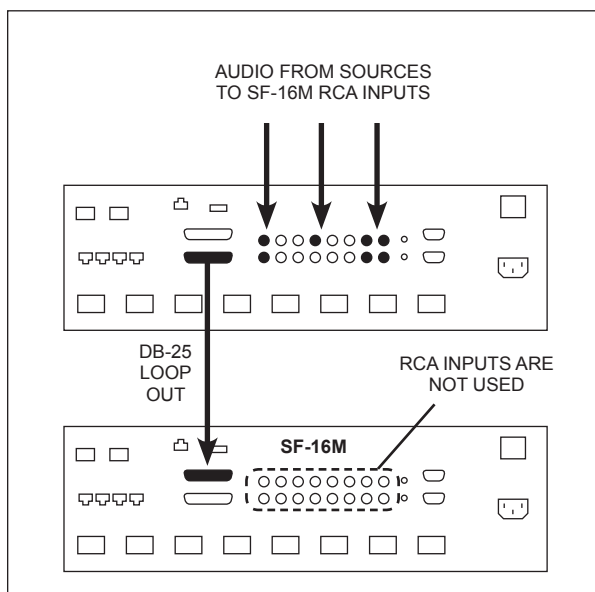

Figure 2
- 1. Source audio link between SF-16M units:** When multiple SF-16M units are linked together, the DB-25 audio input receives source audio from the DB-25 audio loop output of the previous SF-16M. The source audio originates from the RCA audio inputs or the DB-25 audio input of the first SF-16M chassis. (See figure 2 below).